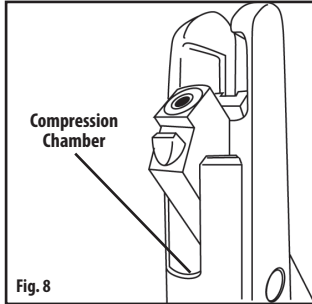

Fig. 8
- a. Apply one drop of Crosman RMCOIL (available at crosman.com) into the compression chamber (Fig. 8).